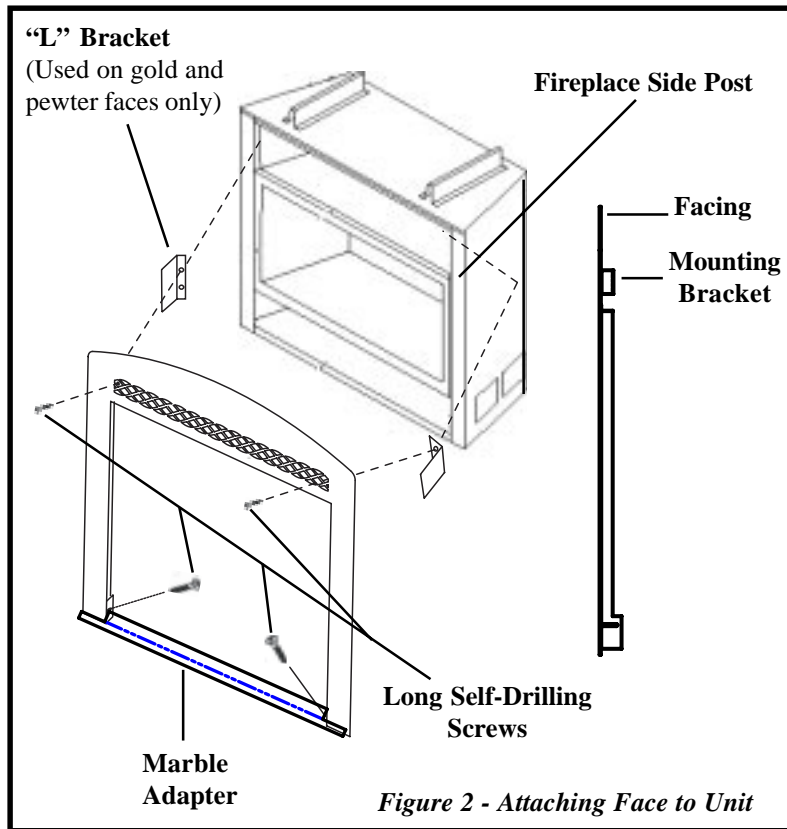

Figure 2 - Attaching Face to Unit
4. Install arch face by positioning the mounting bracket on back of the face between the fireplace side post. (Note location where you removed top louver) Using four self-drilling screws, screw through the top holes on mounting bracket and bottom holes on the legs of the arch. If installing Gold or Pewter faces, “L” Brackets are used to hide the Gold or Pewter reflective material from the front of the fireplace (See Figure 2)